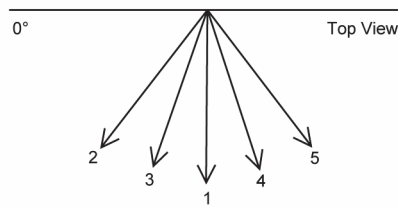

Figure 2
- Manual horizontal airflow direction can be set using remote control; the angles of the vane are as stated below and the positions of the vane are as Figure 2 above: